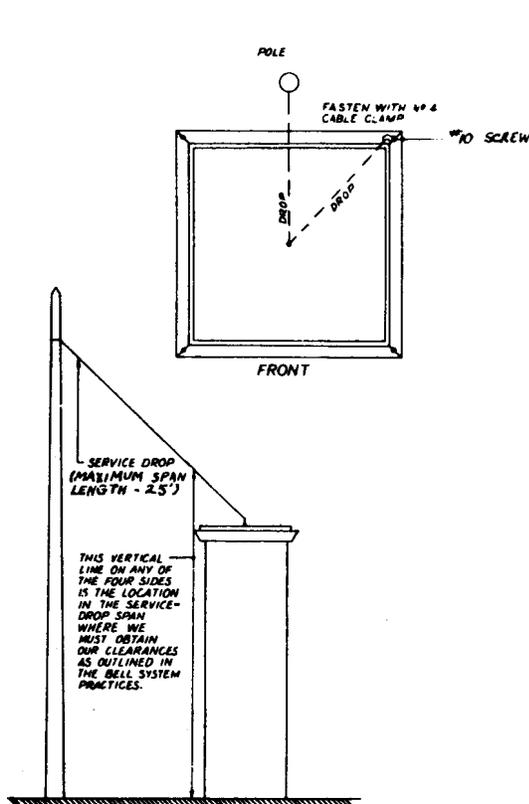

FIG.10- METHOD OF FASTENING SERVICE DROP TO SECURE ADEQUATE CLEARANCES
5.02 Attach drop wire hook to center of roof or to 1/4-inch machine screw on right rear corner post. Secure the drop wire to the roof edge with a No.4 cable clamp and the screw that fastens the roof sections together. (See Fig. 10)